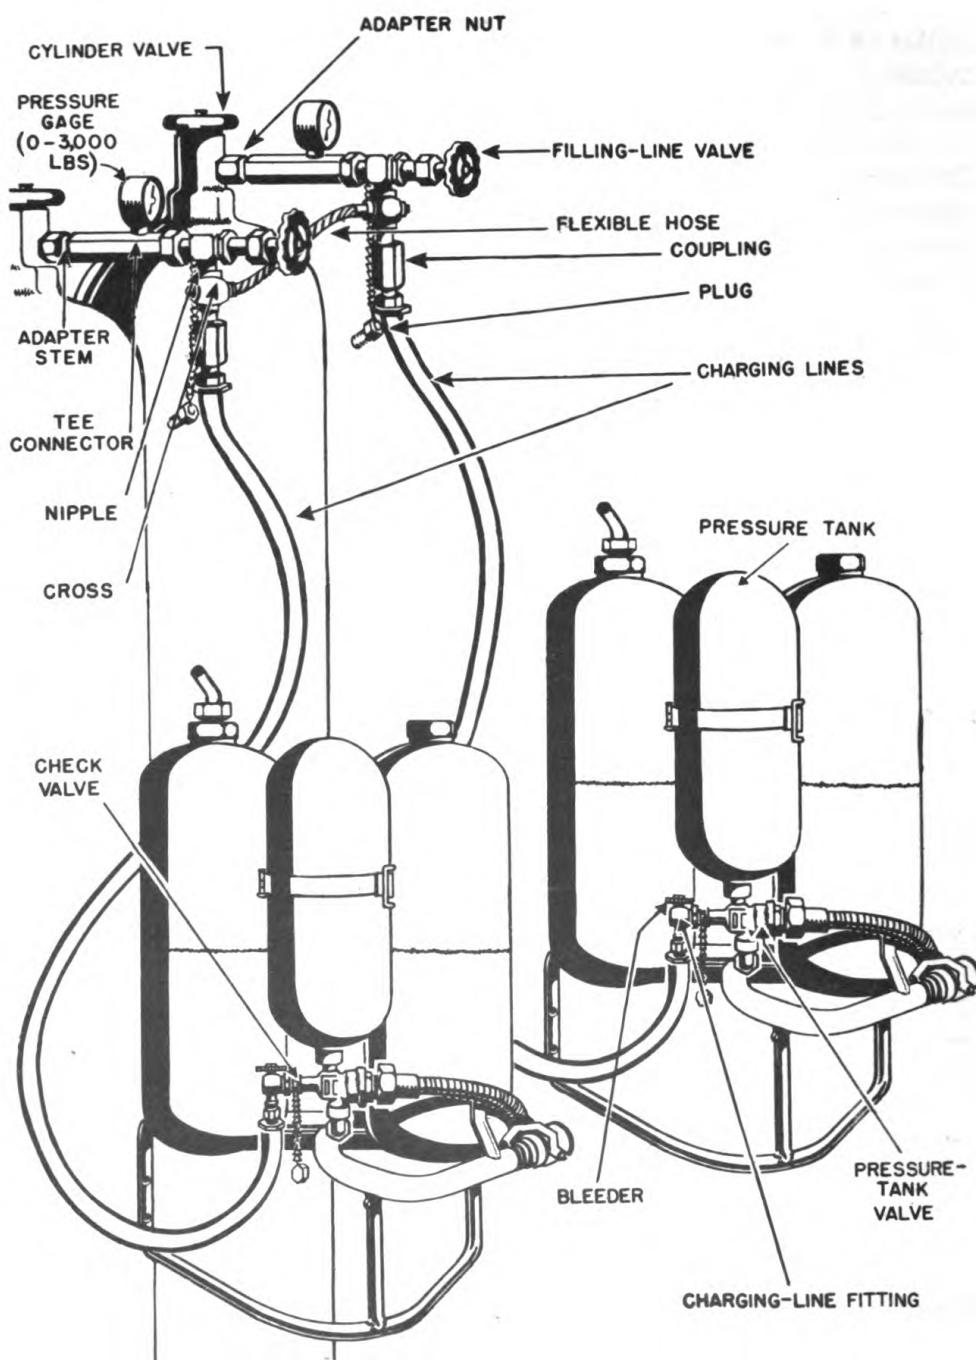

Fig 23. Charging two pressure tanks, using charging and filling lines, and cylinders of compressed air or nitrogen.
(1) Volume and pressure. Cylinders come charged with 200 to 220 cubic feet of air or nitrogen. Since cylinders with 220 cubic feet of air or nitrogen have a higher initial pressure, it is recommended that they be procured, if obtainable. All cylinders used must have a pressure of at least 600 pounds per square inch. One or more of the cylinders must have a pressure of at least 1,800 pounds per square inch. Two or more cylinders, preferably at least four, should be used, if available.
(2) Charging capacity. Fully charged cylinders, if properly used in rotation, have capacity for charging pressure tanks approximately as follows:
(3) Apparatus. The apparatus for charging two pressure tanks by the use of cylinders consists of a filling line, two charging lines, and two cylinders. (Fig 23) The filling line and charging lines are obtained from the service kit. (Par 48) Plugs are provided to close off either half of the filling line when only one flame-thrower tank group is to be charged.
(4) Warning. Oxygen is sometimes shipped in cylinders having the same threads as nitrogen cylinders. If oxygen not mixed with nitrogen, as in air, is introduced into the fuel tanks of the portable flame thrower, a violent explosion may result. Therefore, the greatest care must be exercised to see that only air or nitrogen is used. Before a cylinder is connected, it should be tested to determine that it does not contain straight oxygen or some combustible gas. This may be done by introducing a burning splint into a jet of the contents. Oxygen causes the splint to burn quickly, whereas nitrogen extinguishes the flame. To make the test:
(5) Attaching lines to cylinders. (Fig 23) The procedure for charging two flame thrower pressure tanks from two cylinders of nitrogen or compressed air begins as follows: